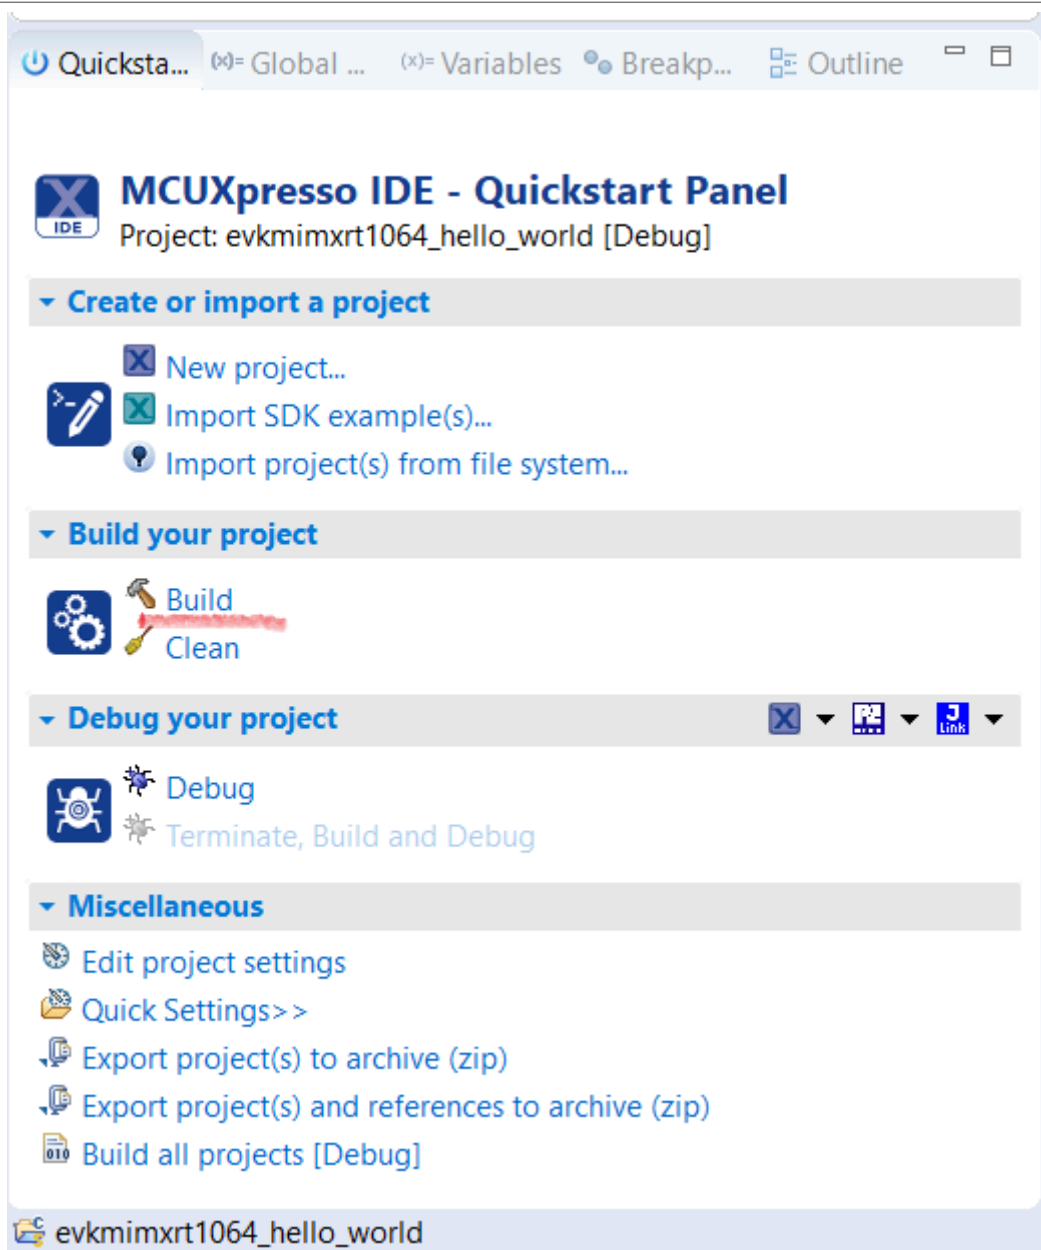

Figure 35. Building hello world case
6. On the **Quickstart** panel, click **build evkmimxrt1064_demo_apps_hello_world [Debug]**, as shown in Figure 35.